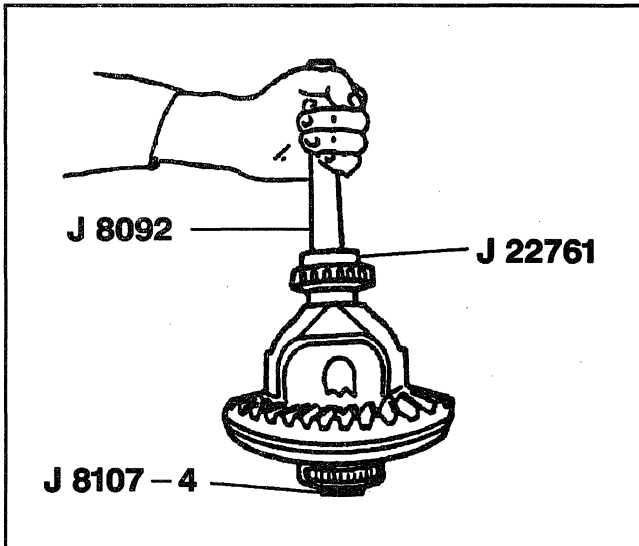

Figure 20—Installing the Side Bearing
7. Differential side bearings (8) using J 22761, J 8107-4, and J 8092 (Figure 20).
8. Differential case (24) to the axle housing. Refer to "Side Bearing Preload Adjustment" in this section.